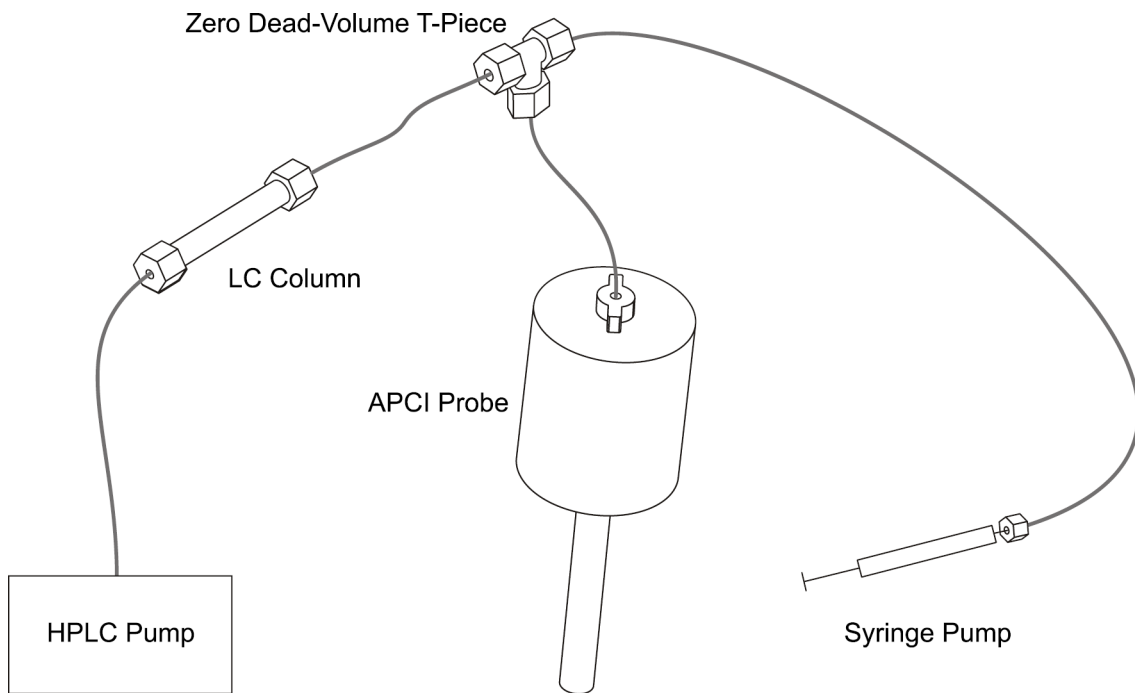

Figure 5-2 Pump and Column Connections to the APCI Probe
1. Complete the connections between HPLC pump, syringe pump, and APCI probe as shown in Figure 5-2.